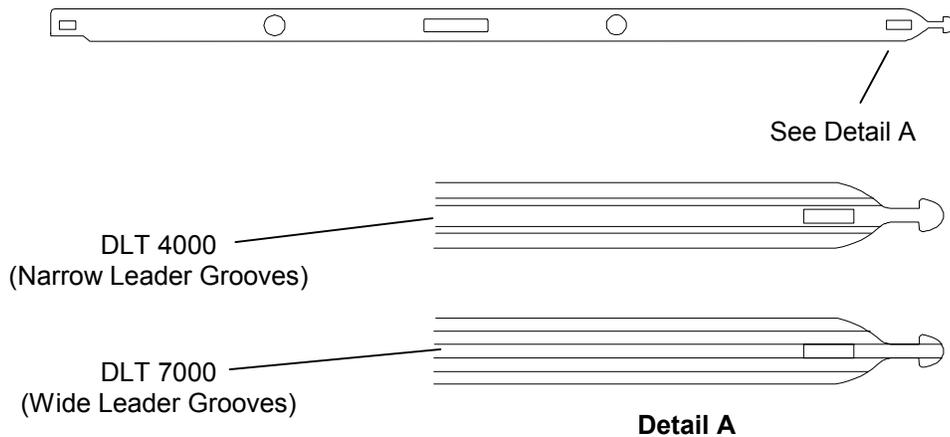

Figure 5-25 Leader Types
10. Pull the leader to its full length and wipe the entire leader with a lint free cloth pad dampened with isopropyl alcohol. **Do not use solvents. Wipe only the leader. Do not touch the rollers or heads.** If the leader is not damaged and appears to be free of scratches it can be re-attached to the buckling mechanism of the drive. If the “Mushroom” tip is bent, torn or missing, the leader must be replaced. The leader must also be flat (not bowed or curved). If the leader is in need of replacement, please contact Qualstar Technical Support for assistance. The visual differences between the DLT 4000 and 7000 leaders are shown in Figure 5-25. Proceed to step 11 to begin re-attaching a leader.